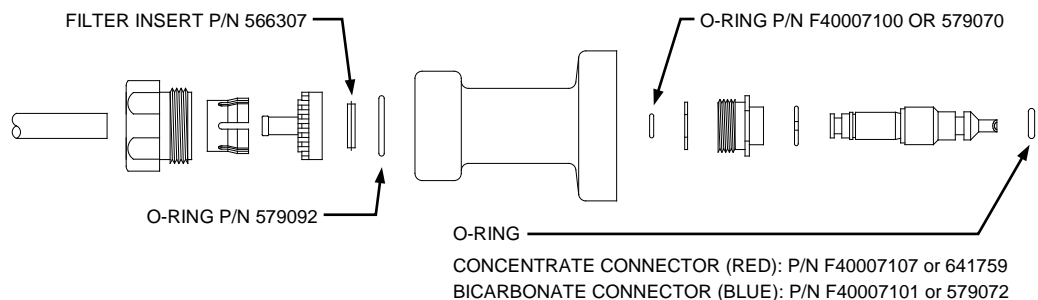

Figure 5. Concentrate and Bicarbonate Connector Assemblies.
2. Filters and O-rings in the Concentrate and Bicarbonate Connectors (See Figure 5). Replace all three O-rings in each connector.